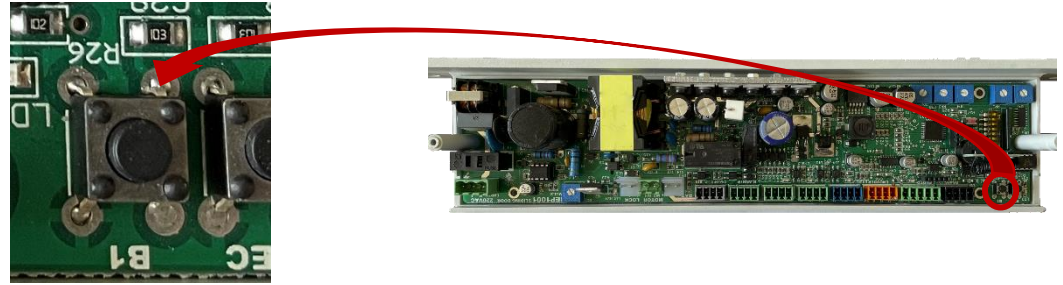

Figure 17: The position and close-up view of the TEST button on the board.
16) TEST Button: When pressed once, the door will open and close once. It is shown in Figure 17.